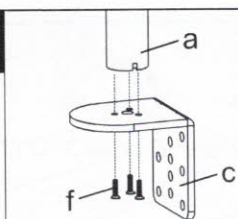

Figure 1
1. Install the $\propto$ Clamp Brace(c) to the Pole (a) using 3pcs M5x14 Bolts(f), and tighten using the Allen Key(o), see Figure 1.